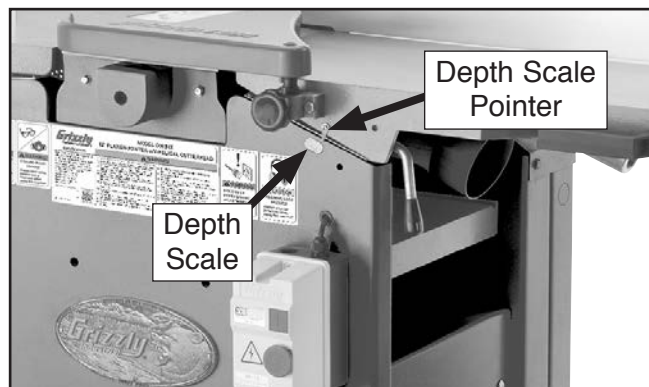

Figure 73. Depth scale adjusted to "0" position.
4. Using screwdriver, adjust scale pointer to zero (see **Figure 73**).